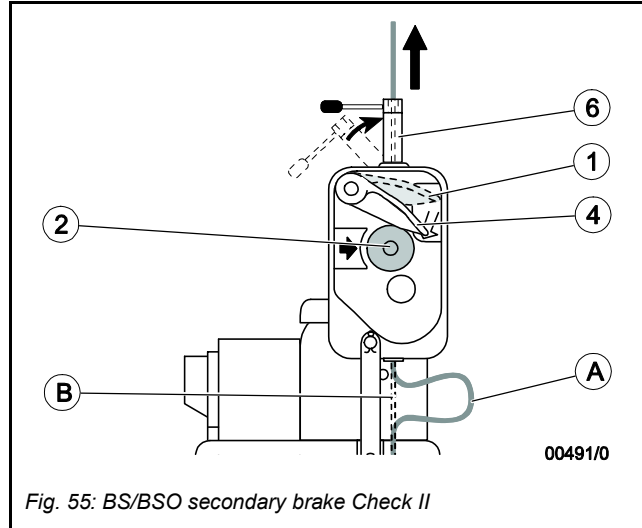
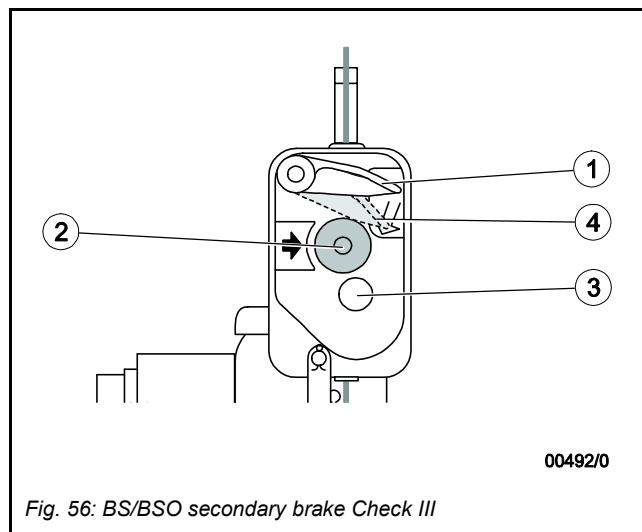

Fig. 55: BS/BSO secondary brake Check II
Fig. 56: BS/BSO secondary brake Check III
- (1) At ground level first close the BSO secondary brake by pushing EMERGENCY STOP button (2). Then push control lever in DOWN-position and make the wire rope form a loop between tirak® casing and BSO secondary brake (Fig. 55). Open BSO secondary brake by pulling down the control lever until it locks in the open position (4).
- (2) Push release lever (6) in its upright position and with gloved hands sharply pull primary
wire rope in arrow direction (Fig. 55) – the BS/BSO secondary brake should close immediately. Reset BSO secondary brake by pushing down the control lever until it locks in the open position (4) (Fig. 56).
- (1) Lift platform 3 ft. (1 m) above ground or safe surface, and push EMERGENCY STOP button (2) of the BS/BSO secondary brake (Fig. 55).
- (2) Lower the platform to check that the BS/BSO secondary brake holds the load. A loop should form as shown in (Fig. 55), which means the BS/BSO is supporting the load.
- (3) Raise platform until the hoist supports the load. Reset the control lever to the open position (4).